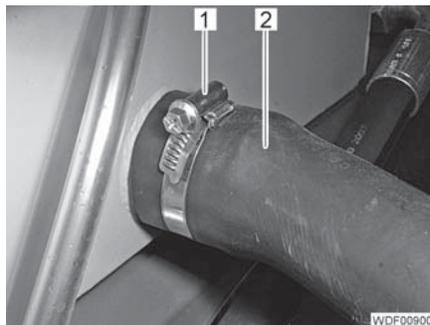

Fig. 73 Cooling hose (top)
- Release the hose clamp (Fig. 73,1) on the cooling hose (Fig. 73,2).